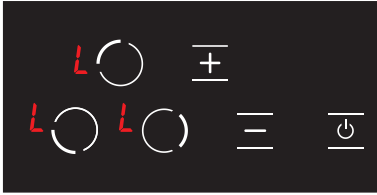

Figure 20
3. The child lock is activated at this time and the **L** icon is displayed on all hobs to indicate this condition. (see Fig. 20) The **L** and **H** icons are displayed alternatively if any hob is hot.